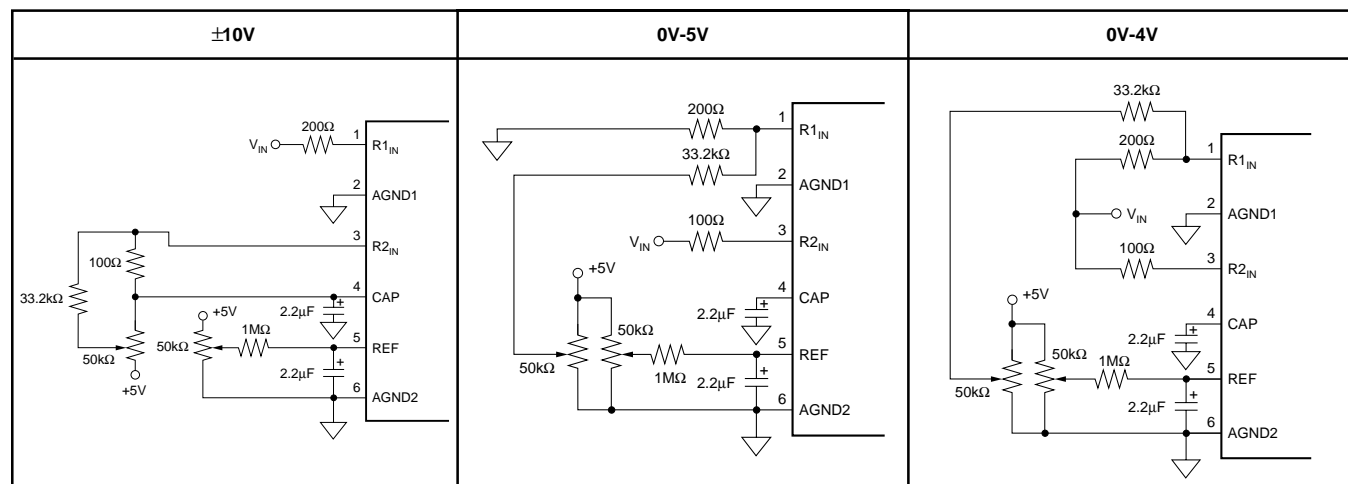
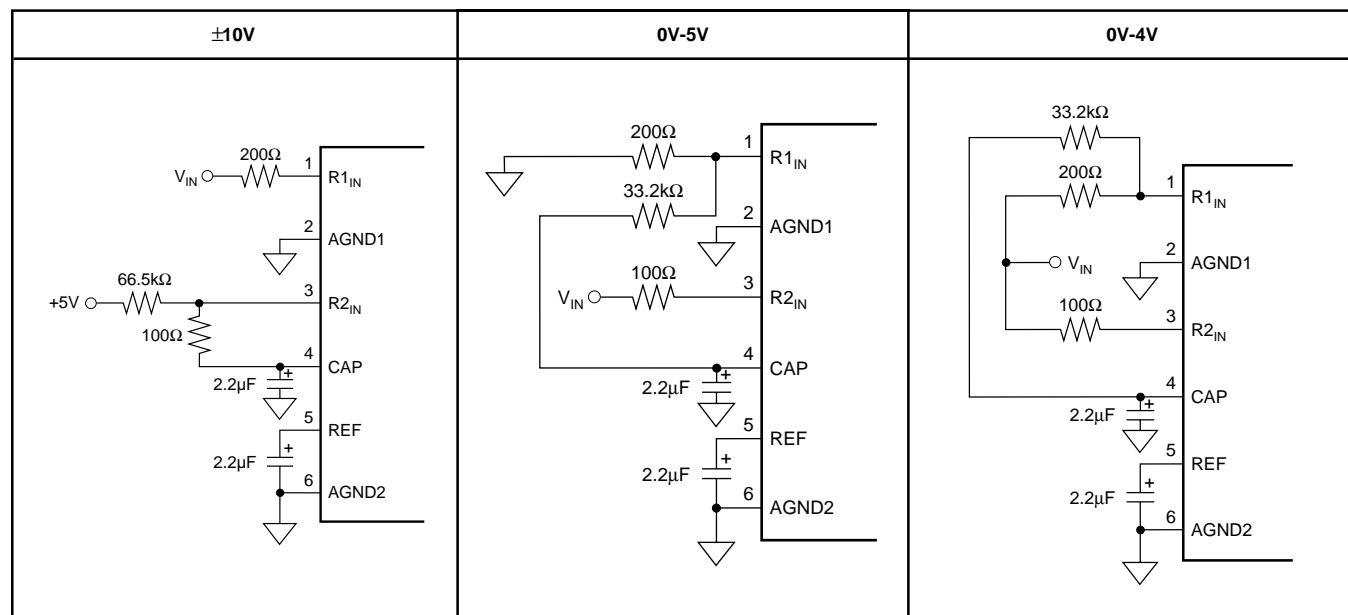
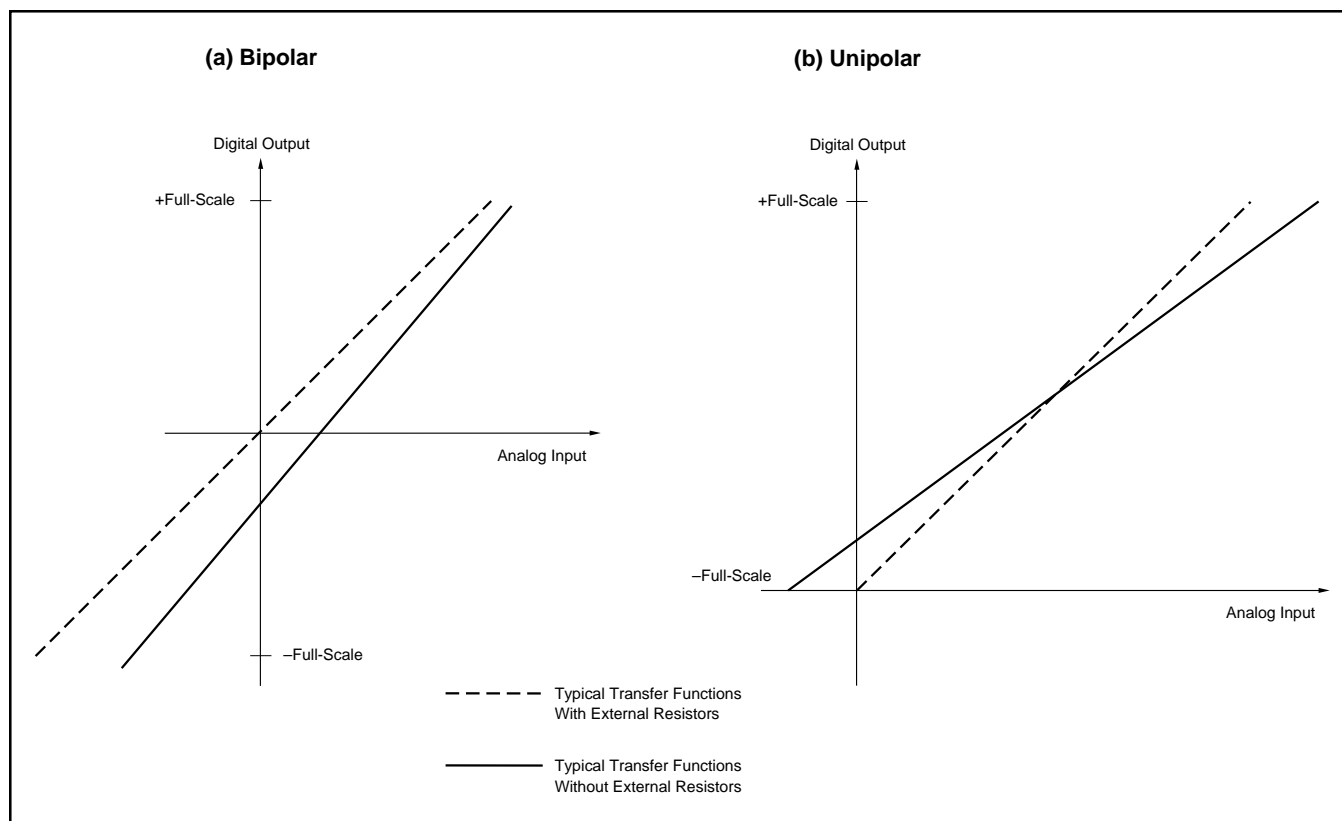

FIGURE 7a. Circuit Diagrams (With Hardware Trim).
FIGURE 7b. Circuit Diagrams (Without Hardware Trim).
FIGURE 8. Typical Transfer Functions With and Without External Resistors.
The ADS7806 offers three input ranges: standard  $\pm 10\text{V}$ ,  $0\text{V}-5\text{V}$ , and a  $0\text{V}-4\text{V}$  range for complete, single-supply systems. See Figures 7a and 7b for the necessary circuit connections for implementing each input range and optional offset and gain adjust circuitry. Offset and full-scale error(1) specifications are tested with the fixed resistors, see Figure 7b. Adjustments for offset and gain are described in the Calibration section of this data sheet.
each input range (see Figure 8). The input resistor divider network provides inherent over-voltage protection to at least  $\pm 12\text{V}$  on  $R1_{IN}$  and  $\pm 5.5\text{V}$  on  $R2_{IN}$ .
To calibrate the offset and gain of the ADS7806 in hardware, install the resistors shown in Figure 7a. Table VI lists the hardware trim ranges relative to the input for each input range.
To calibrate the offset and gain in software, no external resistors are required. However, to get the data sheet specifications for offset and gain, the resistors shown in Figure 7b
TABLE VI. Offset and Gain Adjust Ranges for Hardware Calibration (see Figure 7a).
Figure 7b shows circuit connections. Note that the actual voltage dropped across the external resistors is at least two orders of magnitude lower than the voltage dropped across the internal resistor divider network. This should be consid-
The external resistors, see Figure 7b, may not be necessary in some applications. These resistors provide compensation for an internal adjustment of the offset and gain which allows calibration with a single supply. Not using the external resistors will result in offset and gain errors in addition to those listed in the electrical characteristics section. Offset refers to the equivalent voltage of the digital output when converting with the input grounded. A positive gain error occurs when the equivalent output voltage of the digital output is larger than the analog input. Refer to Table VII for nominal ranges of gain and offset errors with and without the external resistors. Refer to Figure 8 for typical shifts in the transfer functions which occur when the external resistors are removed.